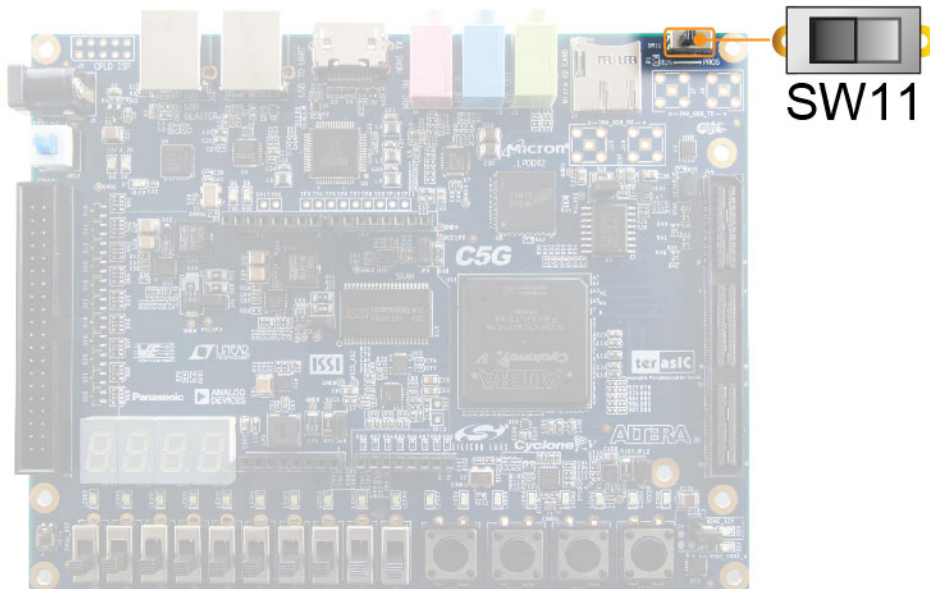

Figure 3-4 The RUN/PROG switch (SW11) is set in JTAG mode
- Configure the JTAG programming circuit by setting the RUN/PROG slide switch (SW11) to the RUN position (See **Figure 3-4**)